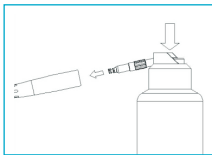

Fig. 9-2
- Use lubricant that is specified for the medical device to clean and lubricate the chucking system: put the nozzle insert into the tube of the spray can and then insert the nozzle to the chucking System (Fig. 9-2), press the spray button for 2 – 3 seconds until the lubricant comes out from the head.